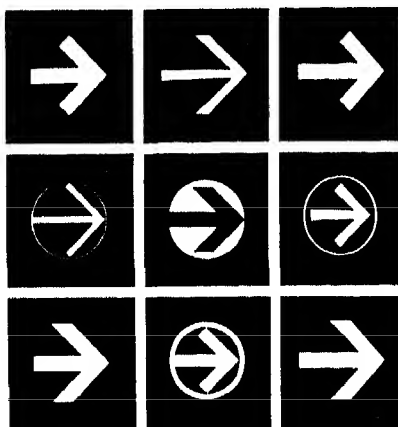

Fig. 9
Fig. 9 Detail 1: The plants remain in their own clay pots. The use of pea gravel at top and only 4 in of 3/4-in gravel at bottom permits easy changes of the plants. To take care of watering and drainage, the copper pan is simply sloped to one side and two screened drains are connected, trapped, and joined to a waste line. This takes care of any excess water, as it is eliminated by gravity drainage. Detail 2: This planter is for areas where freezing does not occur, and the drainage of excess water can be taken care of by simply extending small pipes directly to the exterior. Detail 3: In this planter the plants remain within the planter and excess water is carried off by a screened pipe at the bottom. Pea gravel is used as a 1-in topping so that odds and ends dropped into the planter can easily be removed. Detail 4: A planter in a commercial lobby or entrance is shown in this detail. The plants are permanently installed and the tall drainage pipe takes care of any top applied water. The white sand at the top is to bring contrast to the colors of the plants.
**Arrow selection** Directional arrows should be designed to reflect the "personality" of the letterform selected. Stroke width and size relationships are important considerations (Fig. 9).